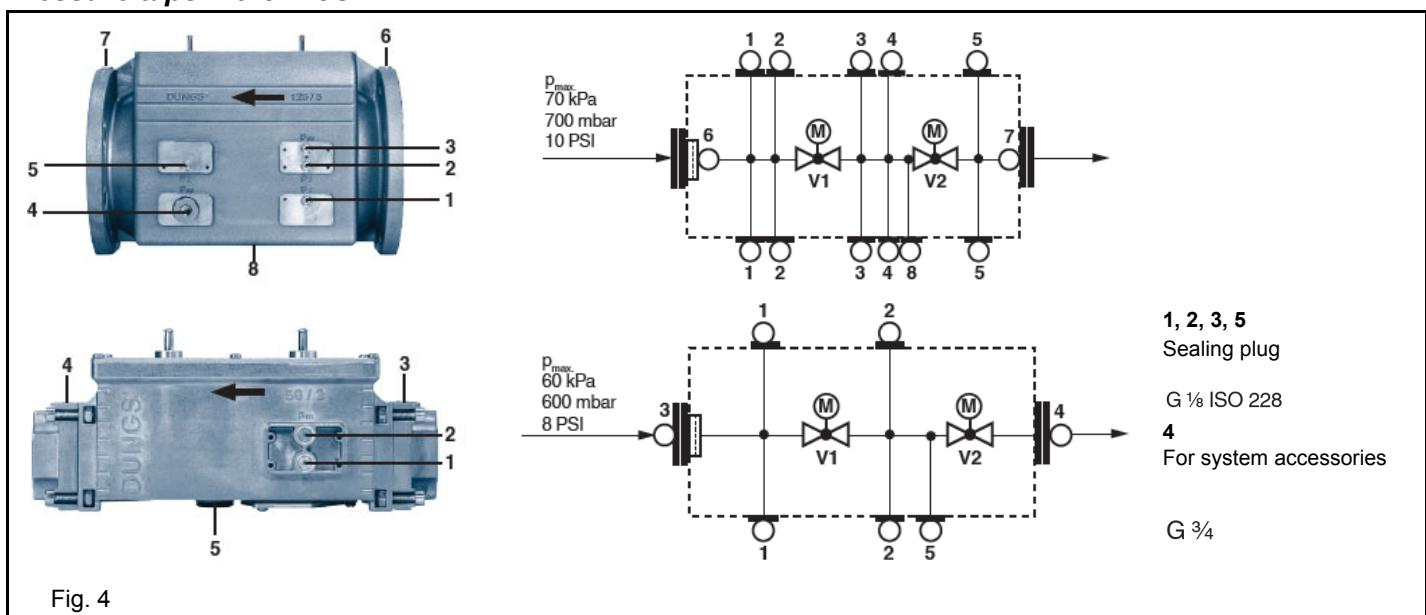

Fig. 4
- Slide VD forward up to the stop, fig. 4.